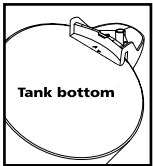

FIGURE 4
6. Place groove of foot over rim of tank and push until the caster foot is tight against bottom of tank **FIGURE 4.**